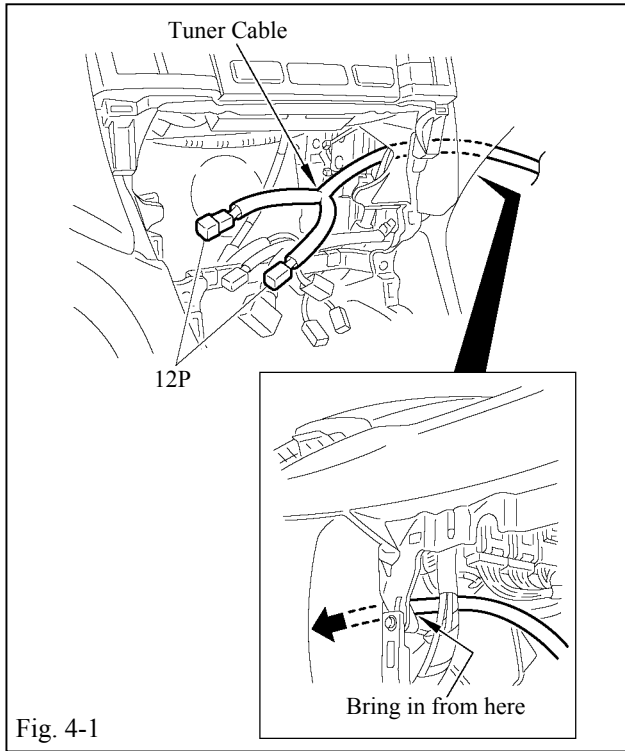

Fig. 4-1
- (1) Bring the tuner cable in from the indicated position in the glove box and run it to the audio unit mounting position (Fig. 4-1).